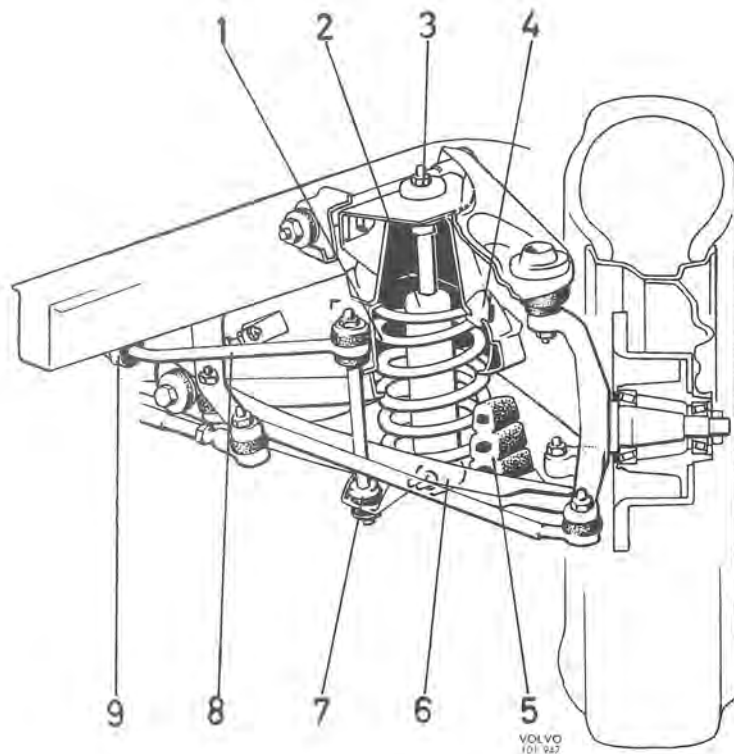

Fig. 7-2. Front spring and shock absorber
The Volvo 164 is provided with coil springs at both front and rear. The front wheel suspension is independent. The upper ends of the front springs (1, Fig. 7-2) are seated in housings formed in the front axle member, and are seated in the bottom of the lower control arms. The lower control arms are also provided with rubber buffers (5), which absorb any impacts arising from loading on the spring. The front
4. Disconnect the steering rod from the steering arm. Loosen the clamp for the brake hoses. Remove the attachment (7, Fig. 7-2) for the stabilizer.
The stabilizer (8, Fig. 7-2), which is attached to both the lower control arms (7) and to the frame (9), increases the stability of the vehicle.